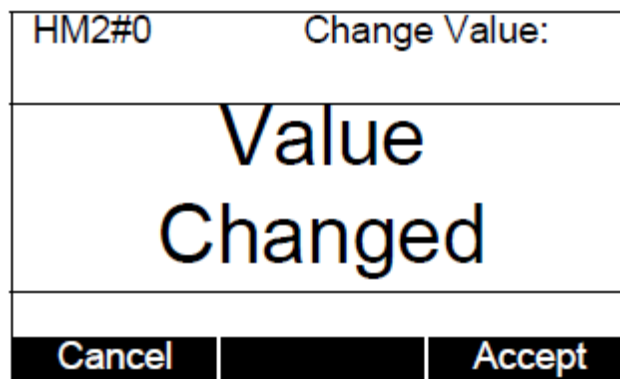

Figure 4-10: Message Value Changed
6. If the new value is validated using the Accept context key, the message **Value Changed** appears, as shown in Figure 4-10.